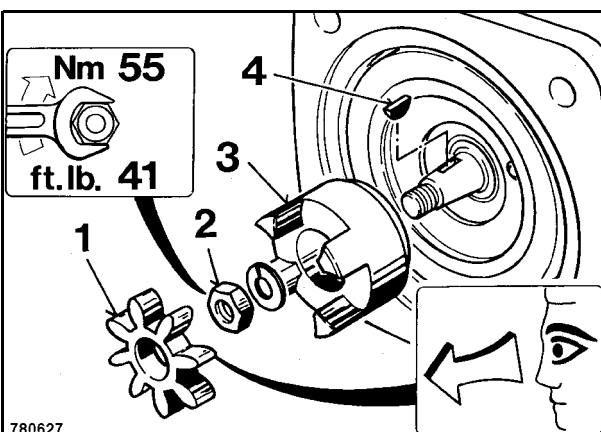

Fig. 18
24. Insert the fitting key 4 (Fig. 18).
25. Slide on coupling hub (3) and tighten nut (2) with 55 Nm.
26. Assemble the elastic coupling (1).